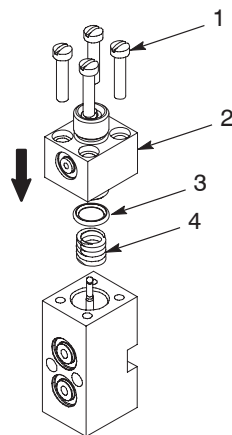

Figure 9-21 Installing the small compression spring and seat
- See Figure 9-21. Coat the seat O-ring (3) with O-ring lubricant and install it on the seat (2).
- Coat the seat screws (1) with Teflon paste.
- Insert the small compression spring (4) inside the module body and then install the seat to compress and secure the spring. Alternate tightening of the seat screws to 1.8–2.0 N•m (16–18 in.-lb).